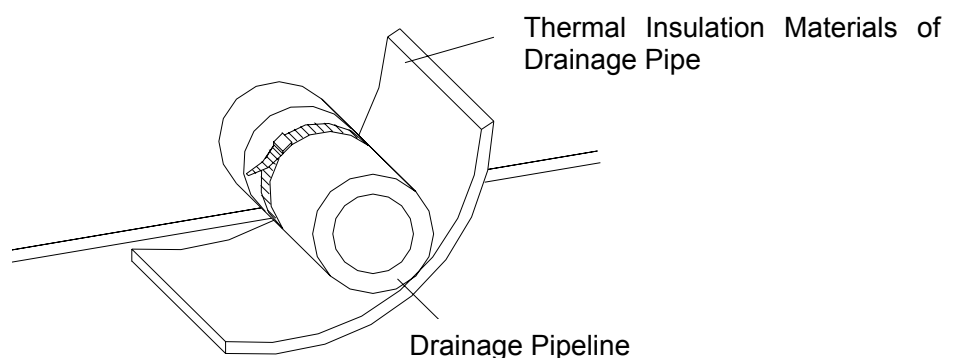

Fig. 37 Thermal Insulation of Drainage Pipeline
- (1) The Drainage Pipeline shall be installed with an inclining angel of $5\sim 10^\circ$, so as to facilitate the drainage of condensate. The joints of the Drainage Pipeline must be covered by thermal insulation materials to avoid generation of exterior condensate. (As shown in Figure 37)
- (2) A Drainage outlet is located at both the left and right sides of the indoor unit. After selecting one Drainage outlet, the other outlet shall be blocked by rubber plug. Bundle the blocked outlet with string to avoid leakage, and also use thermal insulation materials to wrap the blocked outlet.
- (3) When shipped out from factory, both the Drainage outlets are blocked by rubber plugs.
- (4) When connecting the drainage pipe with the unit, do not apply excessive force to the pipeline at the side of the unit. The fixing position of the pipeline shall be near the unit.
- (5) Purchase general-purpose hard PVC pipe locally to be used as the drainage pipeline. When carrying out connection, place the end of the PVC pipeline into the drainage hole. Use flexible drainage tube and tighten it with thread loop. Never use adhesive to connect the drainage hole and the flexible drainage tube.
- (6) When the laid drainage pipe is used for multiple units, the common pipe shall be about 100mm lower than the drainage outlet of each set of unit. A pipe with thicker wall shall be used for such purpose.